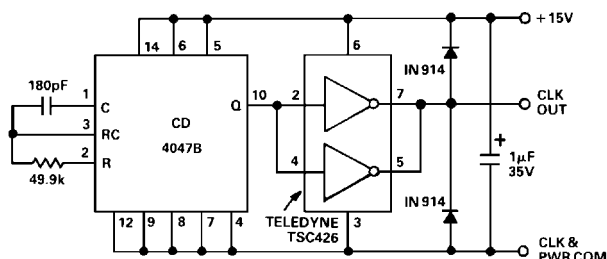

Figure 4. Clock Driver
**AD246 Clock Driver.** The AD246 is a compact, inexpensive clock driver that can be used to obtain the required clock from a single 15 V supply. Alternatively, the circuit shown in Figure 4 (essentially an AD246) can be used. In either case, one clock circuit can operate at least 32 AD204s at the rated minimum supply voltage of 14.25 V and one additional isolator can be operated for each 40 mV increase in supply voltage up to 15 V. A supply bypass capacitor is included in the AD246, but if many